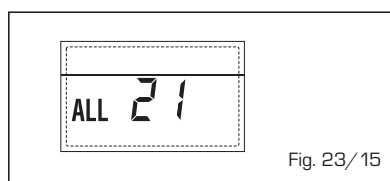

Fig. 23/15
– **INTERVENTO TERMOSTATO SICUREZZA SECONDA ZONA MISCELATA “ALL 22” (fig. 23/16)**